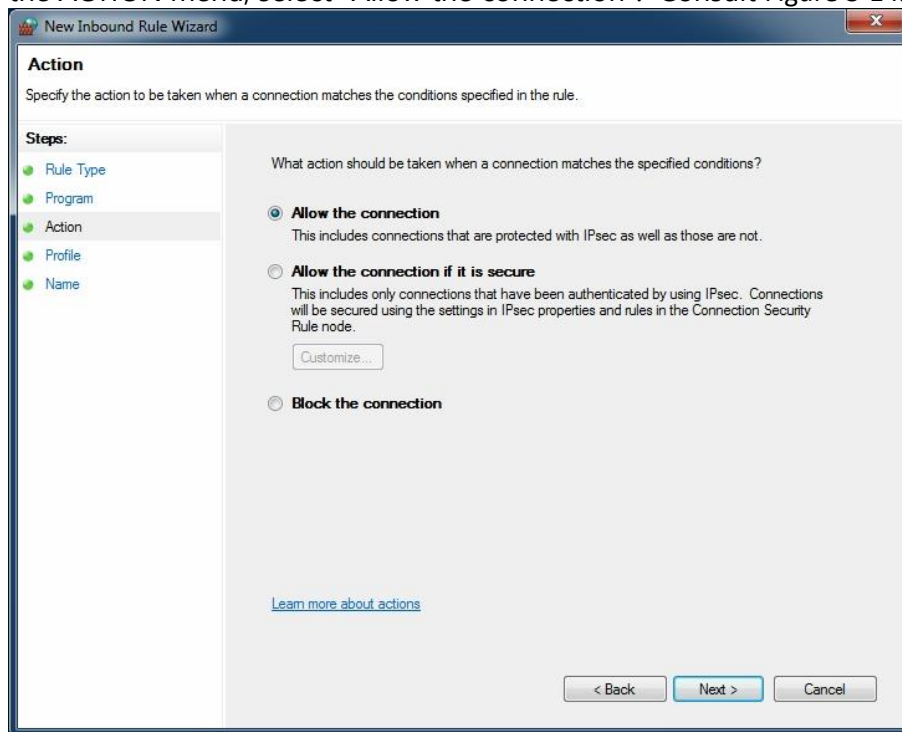

Figure 3-14 Windows Firewall – Advanced Security New Rule: Allow Connections
Step 8: On the ACTION menu, select "Allow the connection". Consult Figure 3-14.